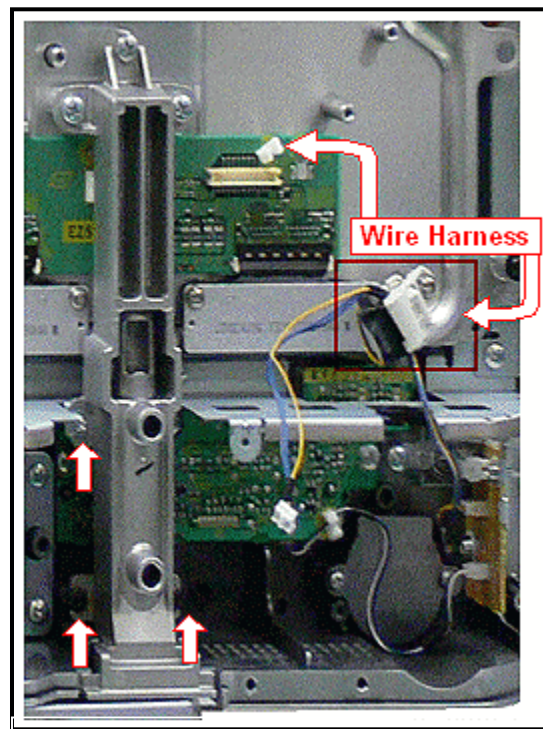

Figure 25. Right Stand Bracket
2. Remove the three screws of the right stand bracket as indicated in figure 25.